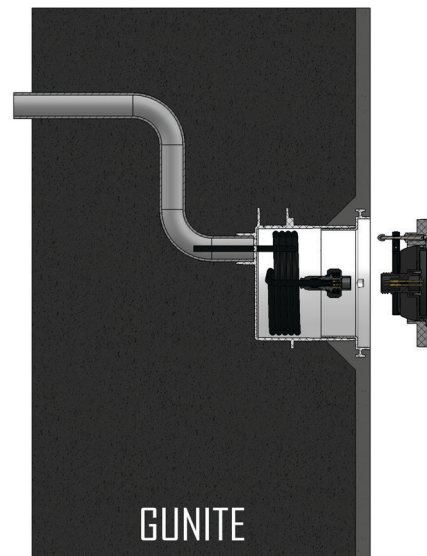

Figure 3
5. To install pool light remove the plaster cap. Clean any debris that may have entered the niche and the adjustable plaster ring during pool construction. Ensure that there are two O-rings located inside the quick-connect plug and that they are lubricated and in good condition. Excess cable should be long enough to rest on the deck of the pool and should be wound up inside the niche (See Figure 3). Connect the quick-connect cord to the back of the LED light, screw the locking nut clockwise till fully secured. Connect bonding wire from the light bonding lug to the and internal niche's bonding lug. Ensure that both bonding connections are secure, follow all applicable codes. Securely fasten the light with provided screws onto the adjustable plaster ring.